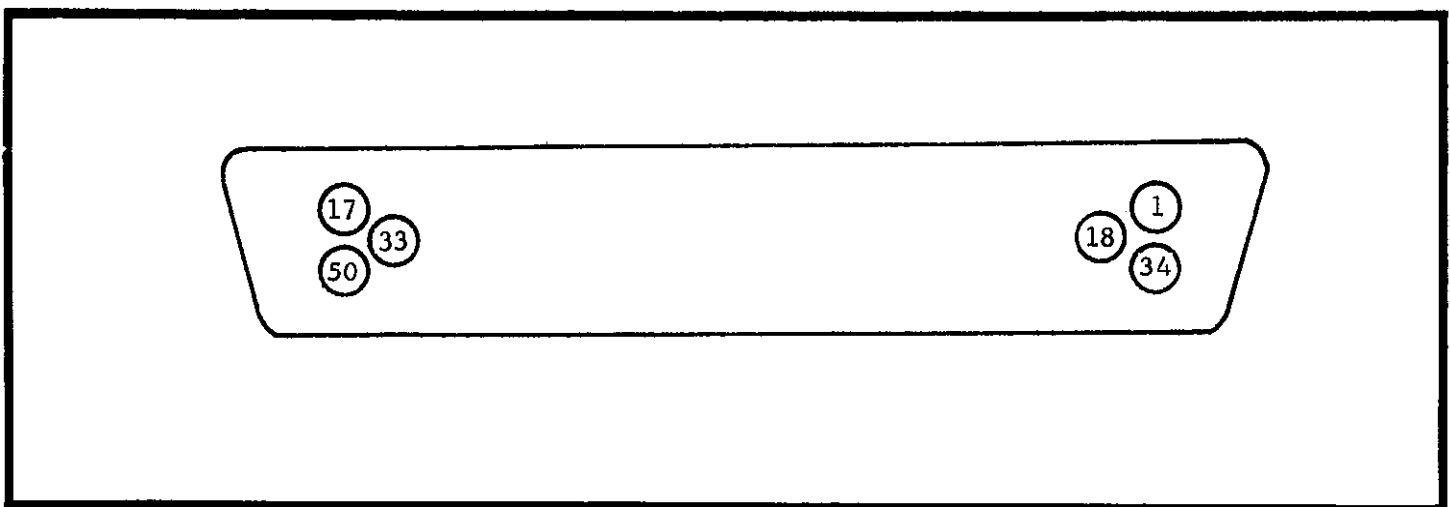

FIGURE 19. Identification of Pins on Digital Output Connector.
1. Bench Mounting. Position the Model 6162 on the left side of the Model 616 as shown in Figure 19 since the interconnecting cable has been designed to mate with the 616 in this configuration only. Remove the "side dress" panels (Item 11) on the sides which are adjacent. Loosen the socket head screws (Item 24) and slide the panels to the rear of the instruments. After both panels are removed install the "mounting clamp" (Item 23)
**c. Connections.** A single prewired cable plugs into the 616's chassis to provide all necessary communication between units. To install the cable, remove the 616's top cover, place rubber grommet within the rear panel slot, insert cable, and plug the three mini-connectors into their respective pc-board locations as shown in Figure 19. A separate 50-pin AMP type 205211-1 connector provides isolated outputs and control lines. A mating 50-pin connector is furnished with the 6162 (Keithley Part No. CS-271).